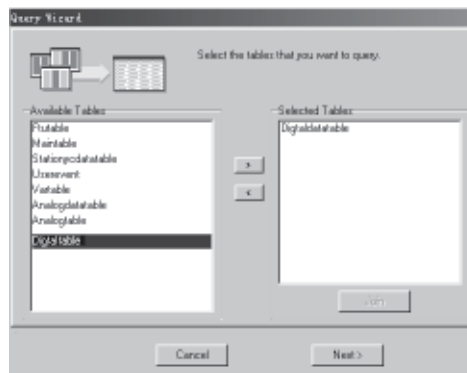

Fig. 8-5 Select the Listing Table 2
2.2 Double click the table name in Fig. 8-5. For example, Select **Digitaldatatable**, and it will appear in the listing table frame on the right. Then click the button **Next>**.